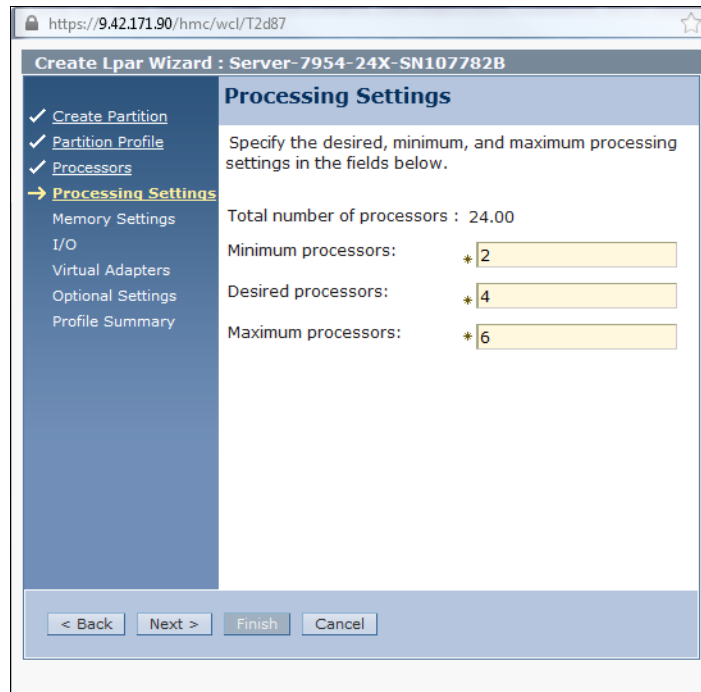

Figure 8-30 HMC Processing Settings window
2. Specify the following number of minimum, desired, and maximum processors for the partition, as shown in Figure 8-30 on page 379: